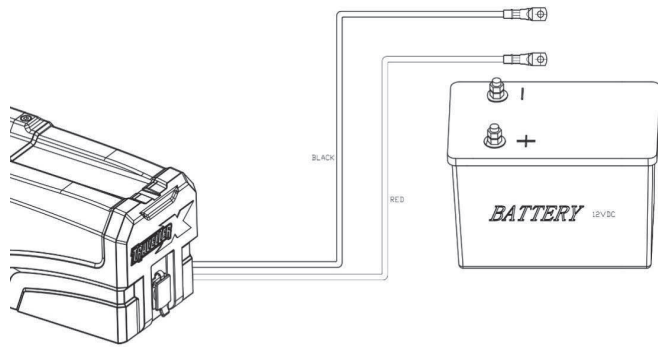

Fig 12
Step 1: Disconnect the winch power cables at the battery.(See Fig 12)